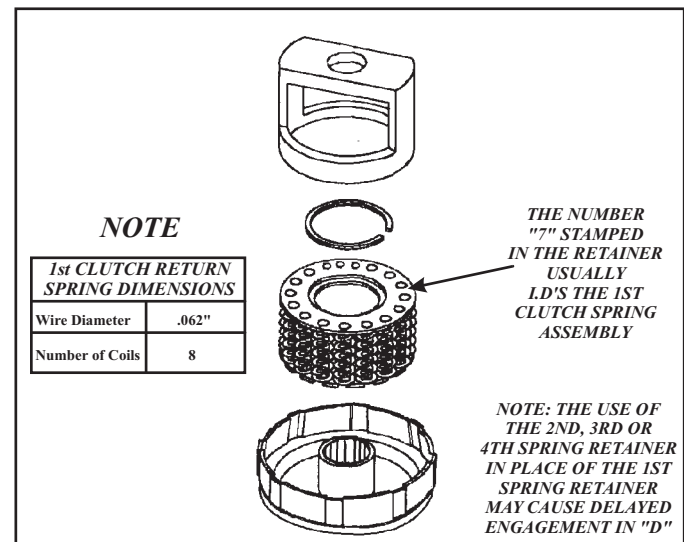

Figure 109
1. Place the 1st clutch piston return spring assembly into the 1st clutch drum. (See note in Figure 109). Using Saturn's spring compression tool, SA9146T or equivalent, carefully compress the spring. With the spring compressed, use a suitable pair of snap ring pliers and install the retaining snap ring (See Figure 109).